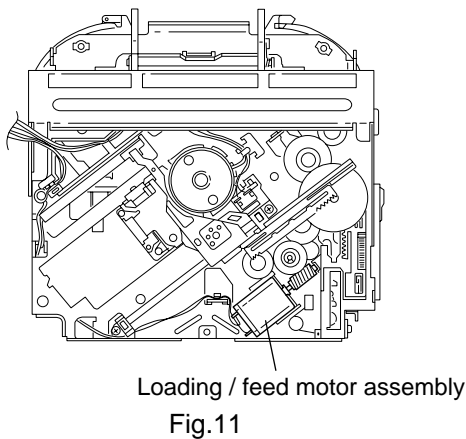

Fig.11
## ■ Removing the loading / feed motor assembly (See Fig.11 and 12)
**CAUTION:** When reassembling, connect the wire from the loading / feed motor assembly to the flame as shown in Fig.11.